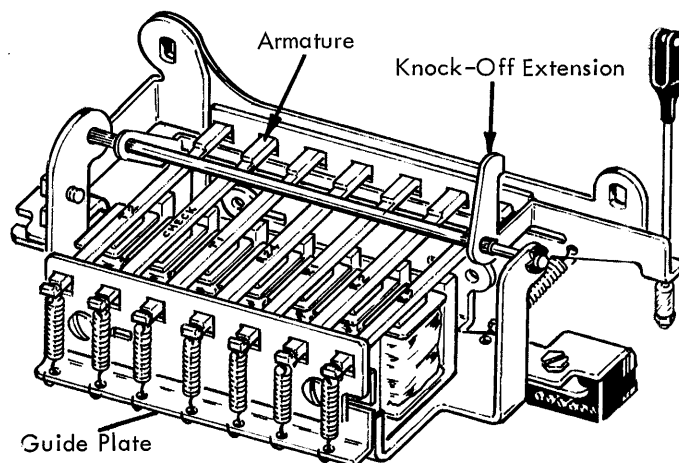

FIGURE 34.1 Magnet Assembly
**NOTE:** The late style magnet assembly may be identified by the absence of pivot eccentrics, and the single knock-off extension (Fig. 34.1).
1. Guide Plate (Fig. 34.1) - The position of the guide plate is predetermined by holes which fit over stamped projections on the pivot plate.
- c. Apply slight pressure to the knock-off extension (Fig. 34.1).
- d. Apply slight pressure to the T-2 and R-5 armatures (Fig. 34.1). Both armatures should be touching the trip bail. If not, form the left trip bail support to obtain this condition.